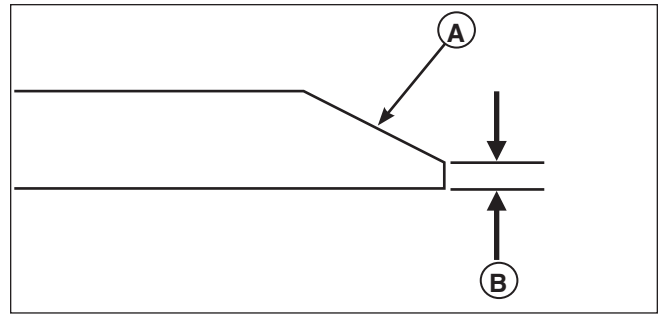

Figure 29. Sharpening the Mower Blade
3. Keep the original bevel (A, Figure 29) when grinding. DO NOT change the mower blade bevel.
4. The mower blade should have a maximum 1/64" (0,40 mm) cutting edge (B) or less.